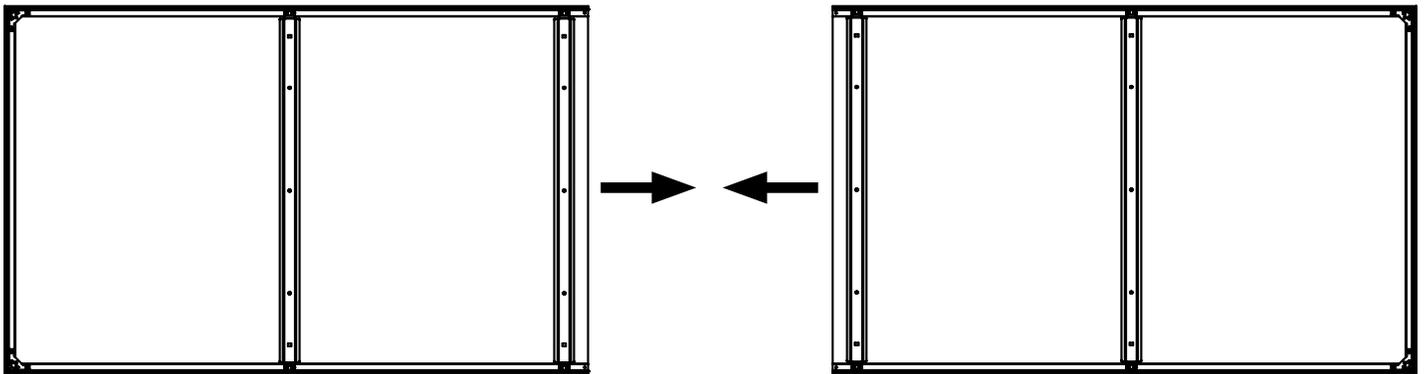

Figure 1
2. Slide each panel together, aligning both the top and bottom frames (Figure 1).